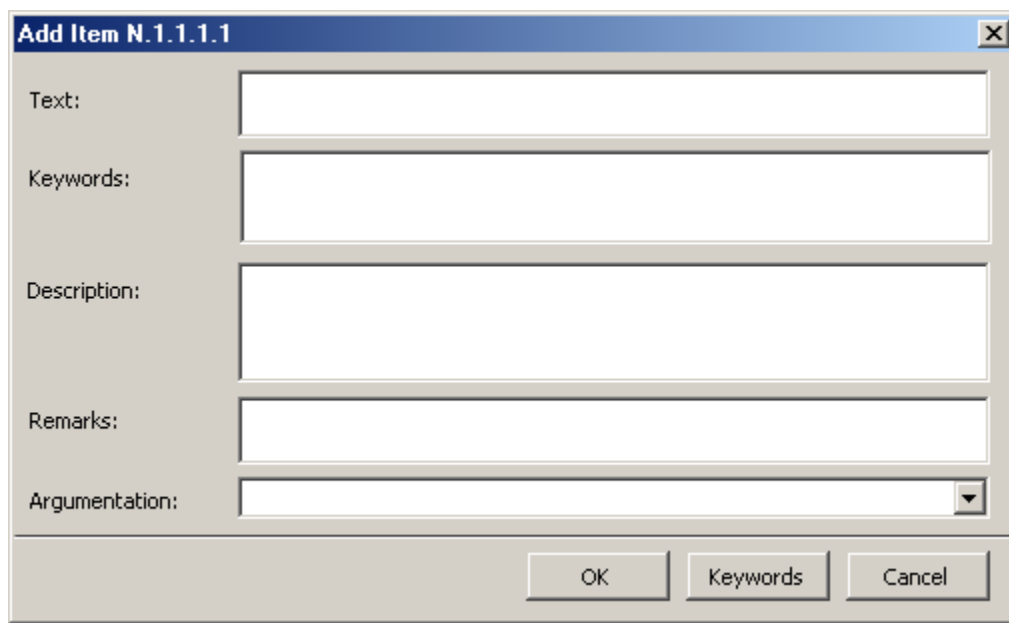

Figure 8. Dialog box for adding a new subordinate
- Fill in the information in the dialogue box (the text and argumentation are required), and then click "OK" (see Figure 8).